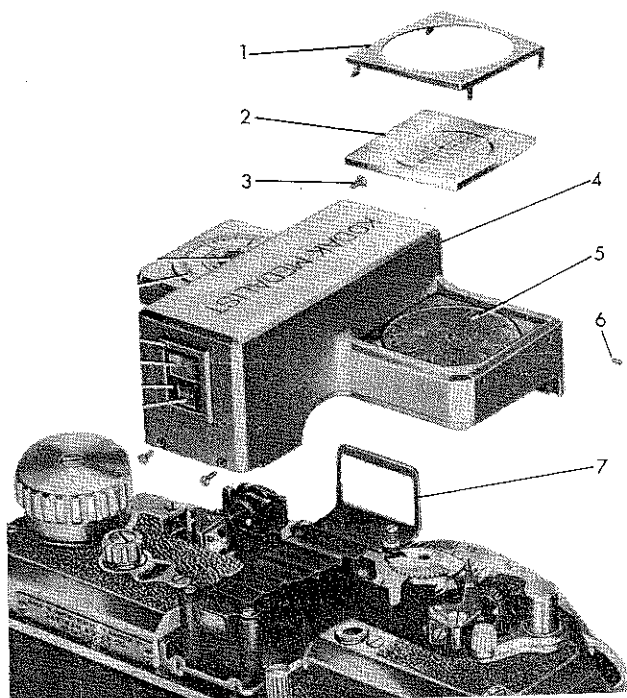

Figure 23—Direct View Finder Cover Assembly, Exploded from Camera
(2) Insert the blade of a jeweler's screw driver in the key slot of the link, and pull the link back to disengage and remove it.
(3) Retract the focusing tube assembly to the closed position.
c. DEPTH-OF-FOCUS SCALE. (See figure 23.)
(1) Loosen the two depth-of-focus scale frame to cover screws (6).
d. DIRECT VIEW FINDER COVER ASSEMBLY. (See figure 23.)
(1) Remove the four direct view finder to range finder plate screws (3), two under the view finder and range finder windows on the back of the direct view finder cover assembly (4), and two next to the range finder windows on the front of the cover assembly. Lift off the direct view finder cover assembly, being careful to lift it straight up.